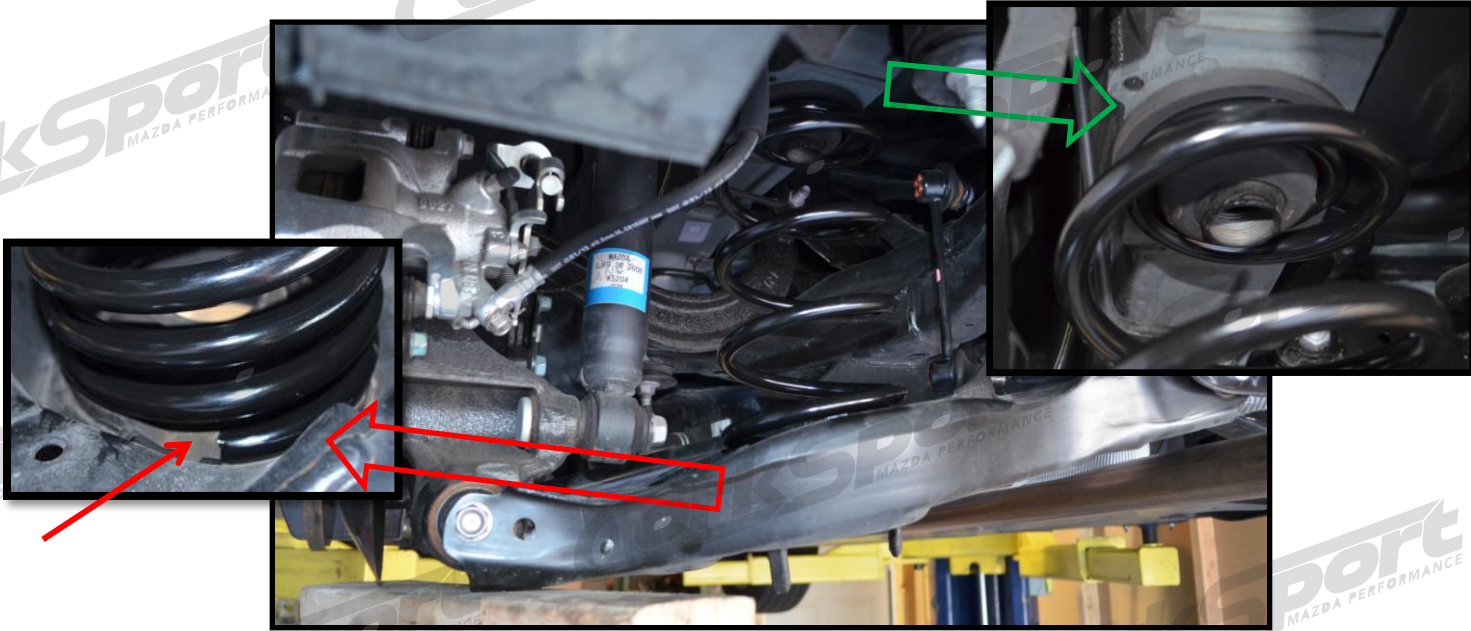

Figure 3b
- f) Transfer the upper rubber spring perch to the new spring. Shown with **green arrow** in **Figure 3b**.
- f) Transfer the upper rubber spring perch to the new spring. Shown with green arrow in Figure 3b.
- g) Place the new spring up into the vehicle, then seat the bottom of the spring into the lower control arm perch. Make sure it is seated correctly in the control arm as shown in Figure 3b with red arrow.
- h) Place your jack back under the control arm again, and slowly raise the control arm compressing the spring. Watch for the spring top to line up into the upper rubber mount hole. Figure 3b shows the rubber mount aligned correctly.